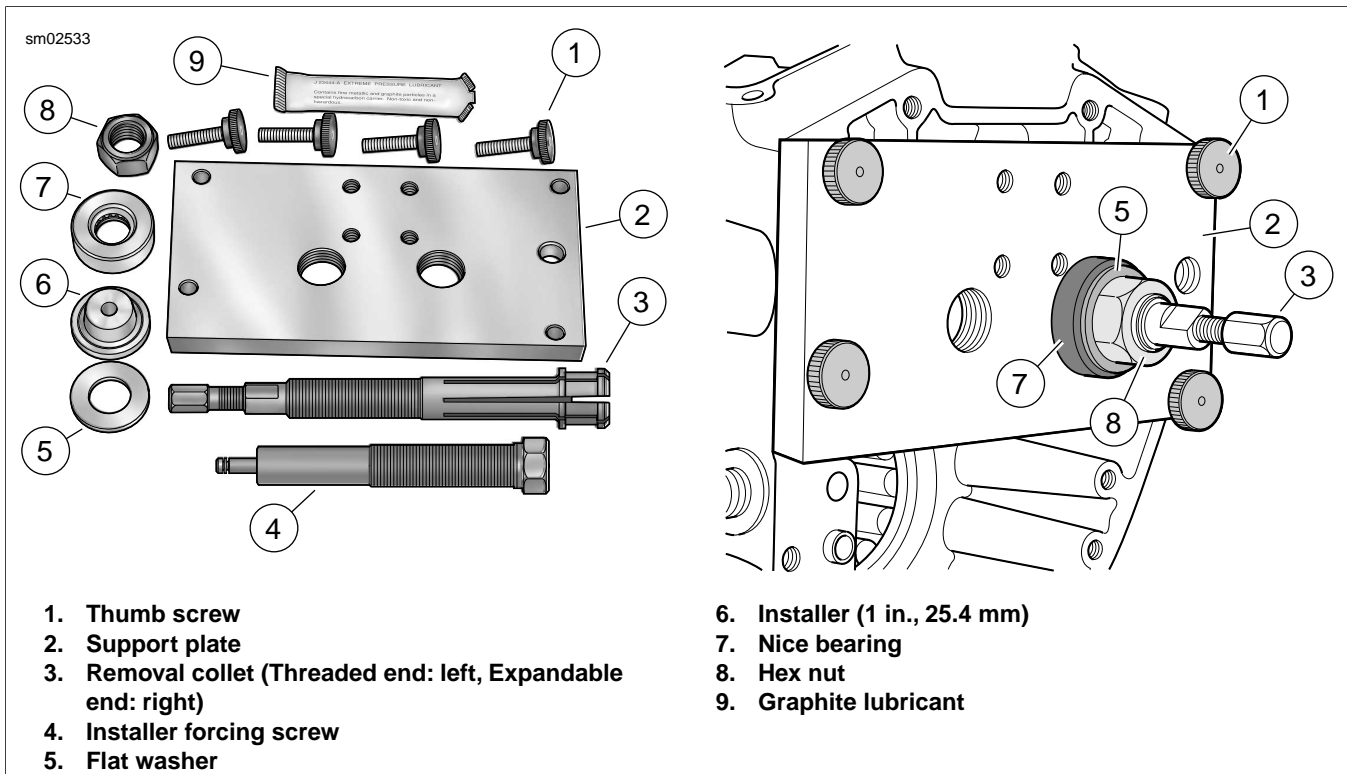
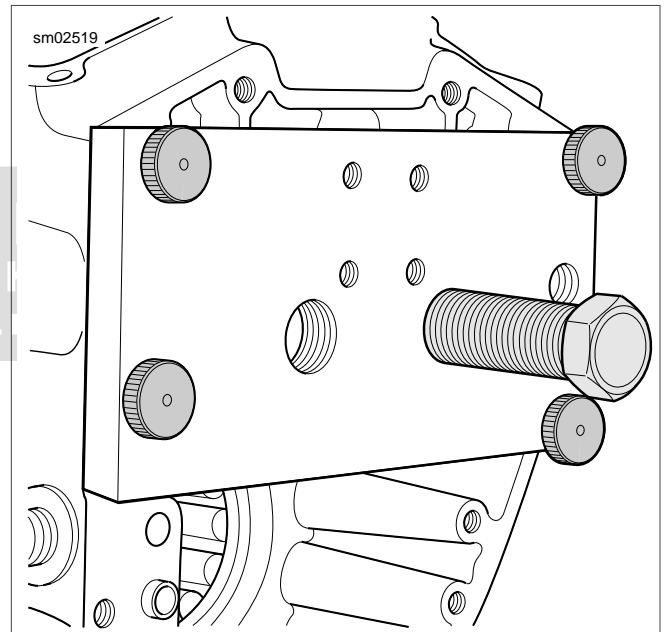

Figure 3-115. Camshaft Needle Bearing Remover/Installer (Part No. HD-42325-A)
Figure 3-118. Installer Forcing Screw Installation
2. See Figure 3-115. Remove four thumb screws (1) from threaded holes in support plate (2), if installed.
3. Sparingly apply graphite lubricant (9) to threads of collet (3) to prolong service life and verify smooth operation.
7. Center expandable end of collet in bearing bore and slide Nice bearing (7) and flat washer (5) on threaded end. Start hex nut (8) on threaded end.
3. See Figure 3-115. Sparingly apply graphite lubricant (9) to threads of installer forcing screw (4) to prolong service life and verify smooth operation.
4. Thread installer forcing screw into stamped side of support plate (2) until threads begin to emerge from opposite side.
5. Place installer (6) at end of installer forcing screw.
7. See Figure 3-118. Aligning two large holes in support plate with needle bearing bores, hang right side of plate on ring dowel in crankcase flange.